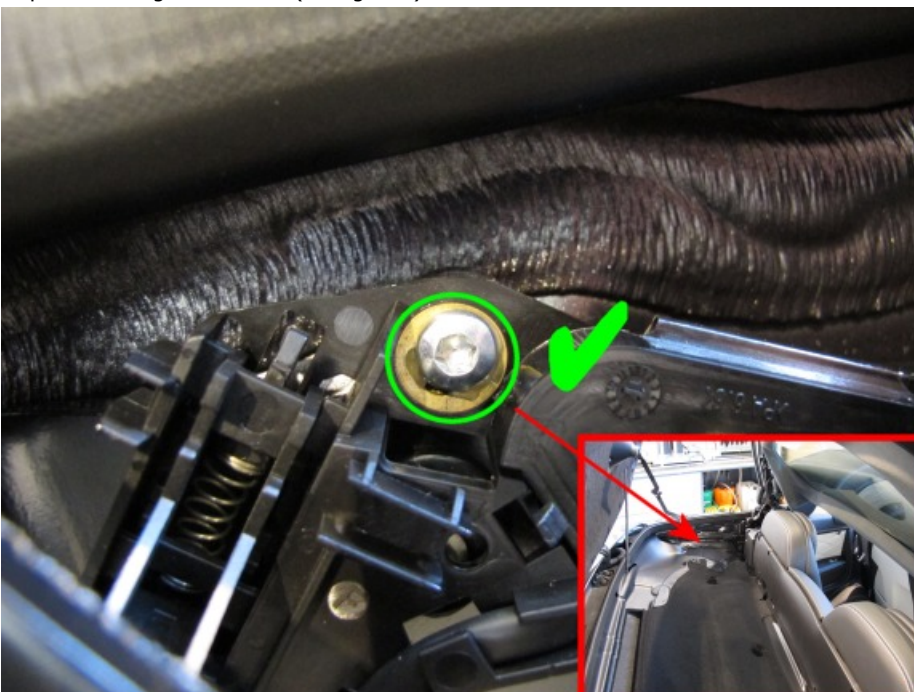

Figure 2
2. Referencing figure 2 locate the tonneau cover hinge micro switch assembly, it is located on the left hand tonneau hinge
3. Inspect the tonneau cover hinge microswitch assembly securing bush. Figure 2 shows the correctly oriented brass bush with the fastener head bearing on the 'top hat' section of the brass bush. Figure 3 depicts an incorrectly manufacture assembly where the brass bush is inverted and the top hat section is not visible. This failure will result in the switch housing assembly lifting off the bush resulting in the convertible roof failing to operate